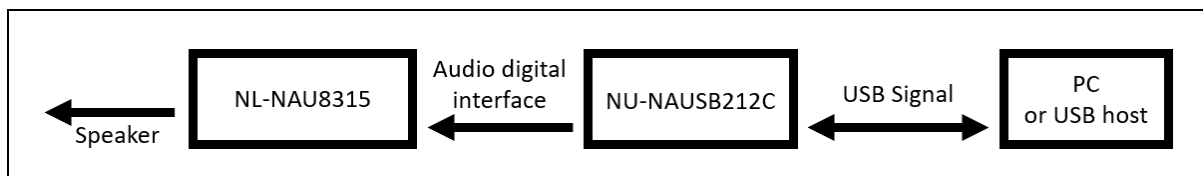

Figure 2-5 Signal Path of NU-NAUSB212C and NL-NAU8315
3. CN2 of NU-NAUSB212C uses USB Cable to connect to a PC under Windows system. (If possible, please do not connect to the PC through USB HUB). Figure 2-5 shows the audio signal path after the two boards are connected to each other.